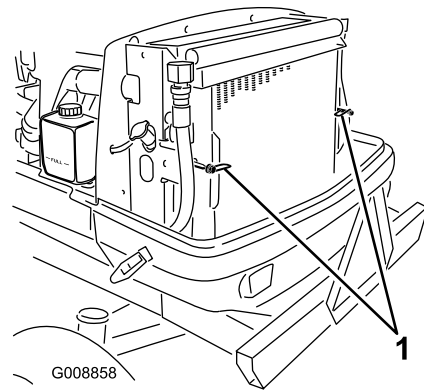

Figure 73
2. Rotate the latches (Figure 73) securing the oil cooler to the frame.